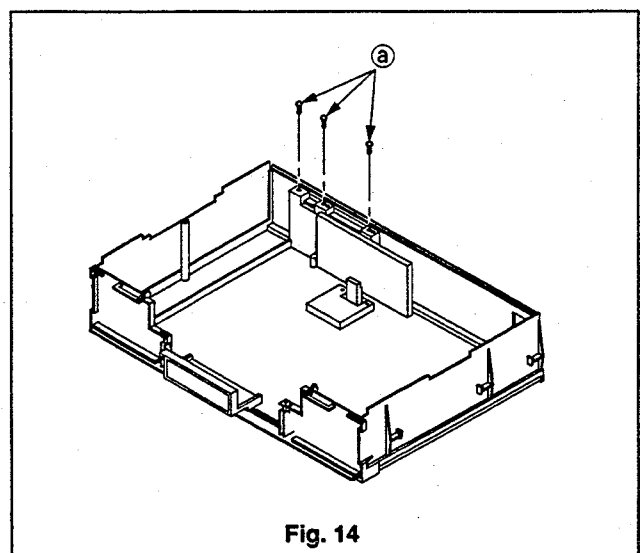

Fig. 14
4. Remove the three screws (Ⓐ) shown in Fig. 14.